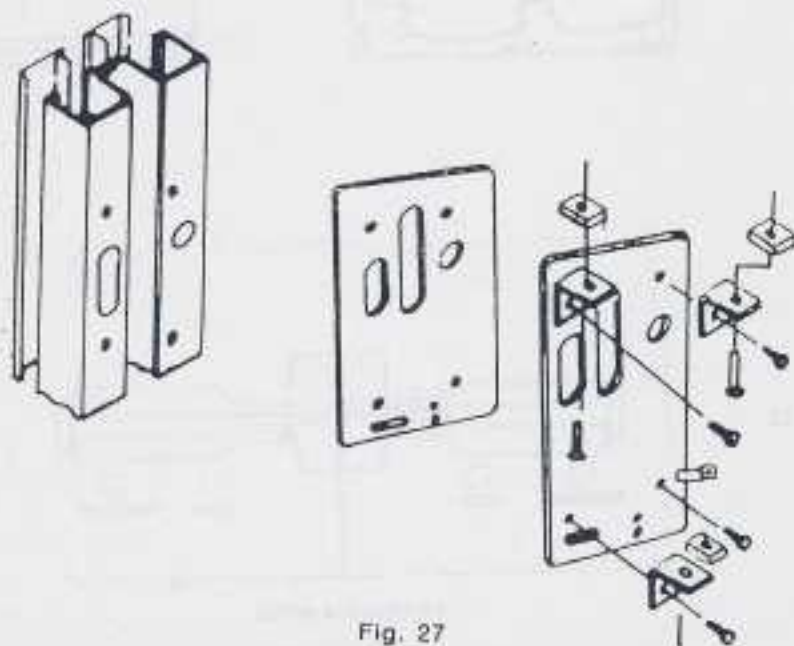

Fig. 27
Position the operator for attaching the transom, vertical jambs and the optional threshold if equipped. Attach the steel and end plates to the prepared jambs with (4) 5/16"x 1" hex head bolts being certain that the aluminum dress plate (see fig. 27) is properly positioned. The steel end plates are handed (see fig. 28) and (29) and must be attached to the appropriate vertical jamb. This is of prime importance since it positions the door package for a full breakout or fixed sidelite application.